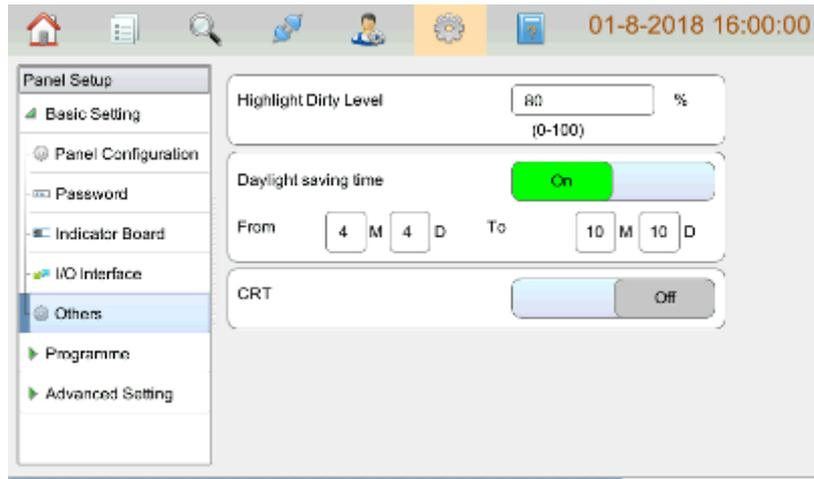

Fig 4.12
- Others: Users can set dirty level and saving time based on the actual situation by clicking **Others** in **Basic Setting** menu as shown in Fig 4.12.